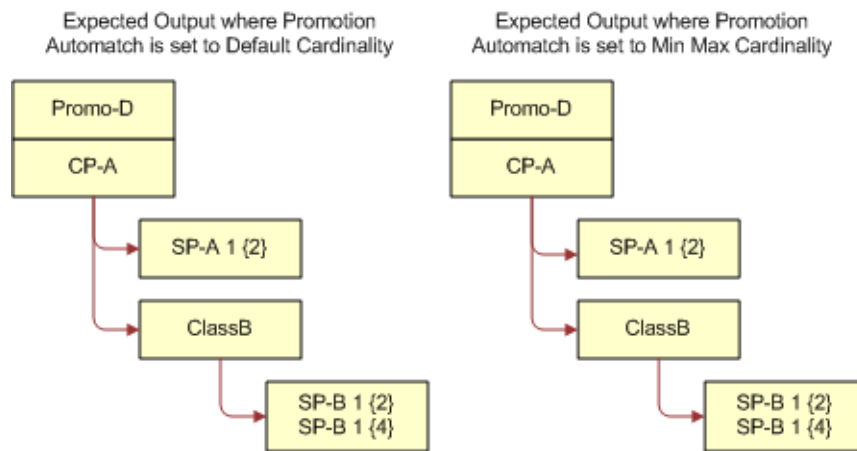

Figure 11. Expected Output for Handling Attribute Defaults Example
- 3 The expected output for attribute defaults when you apply a promotion (Promo-D) to a customizable product (CP-A) that is based on the Promotion Automatch argument value is shown in Figure 11.
Figure 11 shows the expected output when Promotion Automatch is set to Default Cardinality, which is as follows: SP-A has a default quantity of 1 and the attribute value 2. SP-B has a default quantity of 1 and the attribute value 2. SP-B has a default quantity of 1 and the attribute value 4.
Figure 11 shows the expected output when Promotion Automatch is set to Min Max Cardinality, which is as follows: SP-A has a default quantity of 1 and the attribute value 2. SP-B has a default quantity of 1 and the attribute value 2. SP-B has a default quantity of 1 and the attribute value 4.
Figure 11 shows the expected output for attribute defaults when Promotion Automatch is set to Default Cardinality, and when Promotion Automatch is set to Min Max Cardinality.